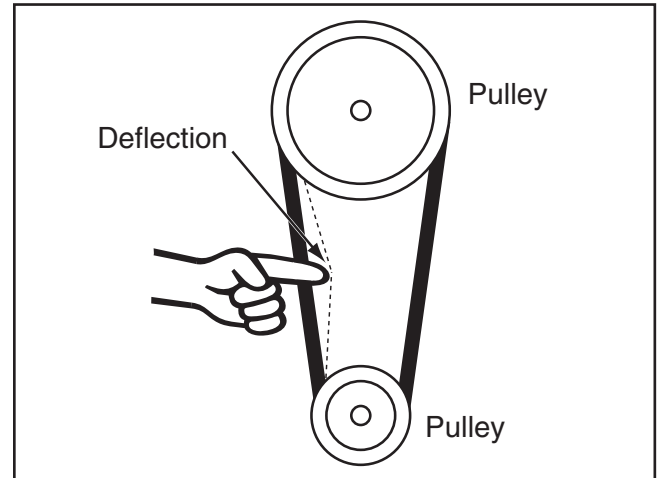

Figure 60. Checking for belt deflection.
3. Check the belt tension. When moderate pressure is applied to the belt between the pulleys (see **Figure 60**), there should be approximately 1/2" of belt deflection.